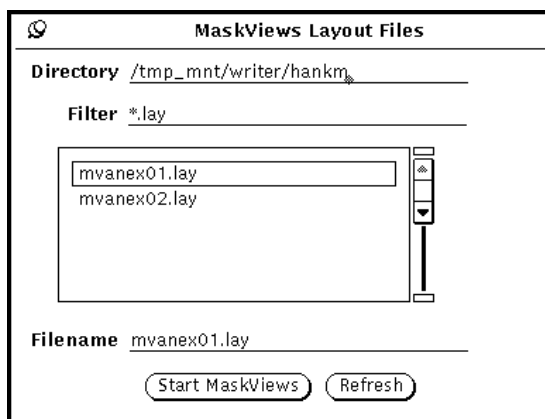
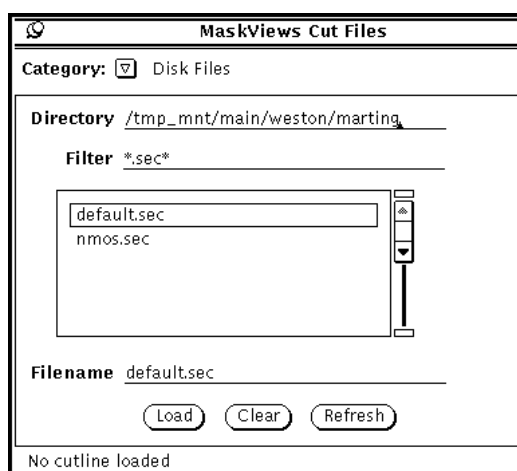

Figure 4-22: MaskViews Layout Files Popup
Figure 4-23: MaskViews Cuts Files - Disk Files Category
DECKBUILD allows you to bring up MASKVIEWS with an optional layout file. To choose the layout file, select **Start MaskViews...** from the MASKVIEWS pull-right menu. The MASKVIEWS **Layout Files** popup appears (Figure 4-22). This contains a scrolling list of layout files in the current directory and text fields to search for layout files. Find and select the layout file of choice, then click on the **Start MaskViews** button on the popup (Figure 4-23). After a few moments, MASKVIEWS appears with the specified layout file loaded. If you did not choose a layout file, MASKVIEWS starts with no layout file loaded.
2. Bring up the **MaskViews Cut Files** popup (Figure 4-23) and set **Category** to **Disk Files**, the default. Choose the cutline file name in the scrolling list. If the file name does not appear, you may need to change the directory and filter on the popup. Click on **Refresh** to refresh the contents of the scrolling list if a new file were just created. You can also enter the name of the file next to **Filename** and click on **Load**.